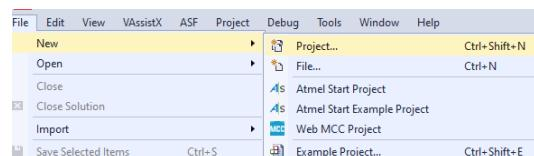

Figure 1: Navigating to Project Creation.
1. Open *Microchip Studio* and create a new project via File → New → Project as shown in *Figure 1*.